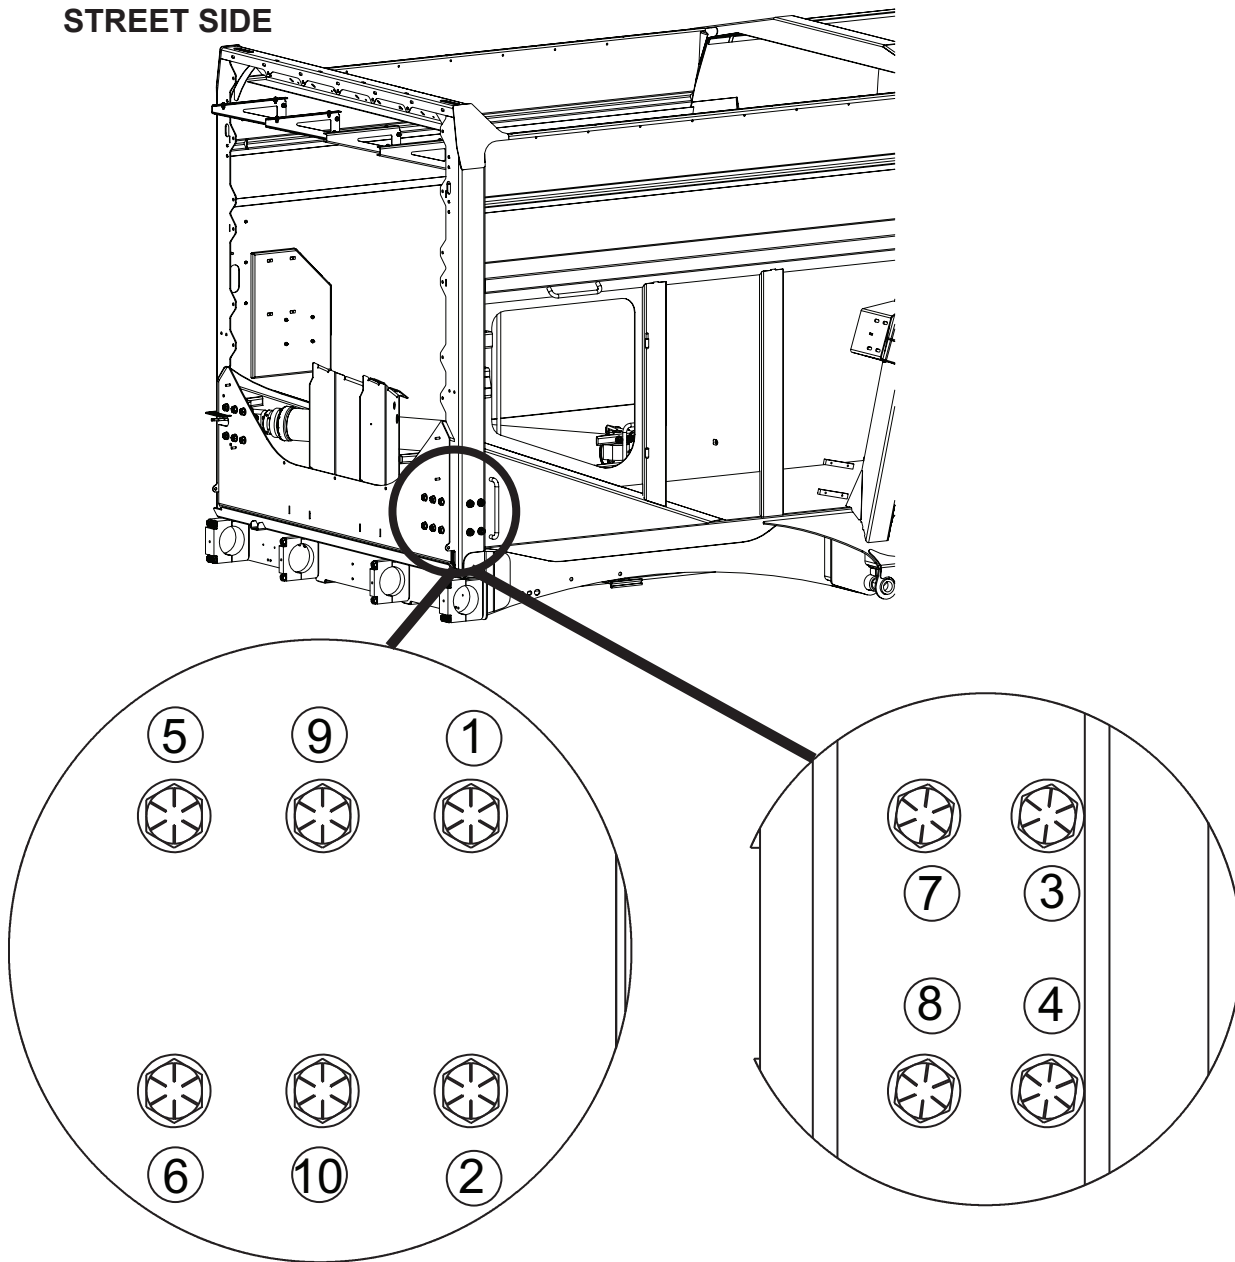
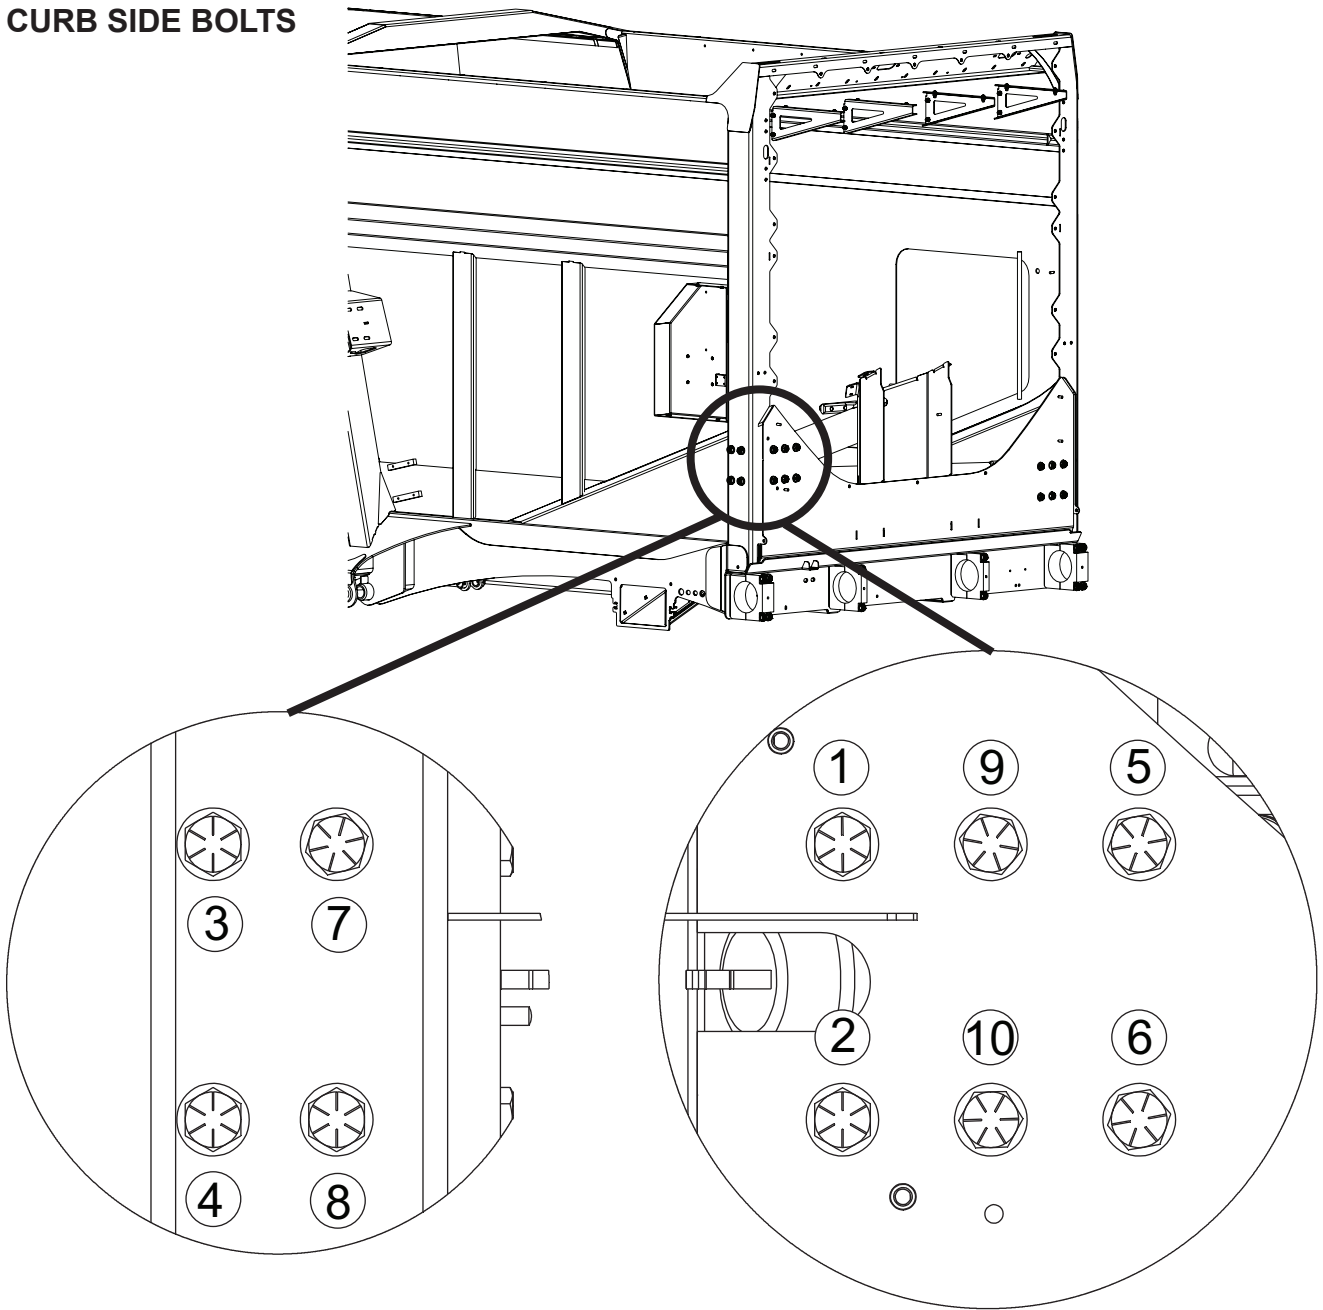

Figure 5
Figure 7
8. Working on one bolt at a time starting with bolt #1 in Figure 5 which illustrates the street side bolts or Figure 7 for curb side bolts, use a hand-held propane torch to heat the head of the bolt and wait approximately 60 seconds. **WARNING!** Heated metal may burn. Be extremely careful of hot metal. Use proper personal protection equipment when handling heated metal.
16. Repeat Steps 8-15 to each of the remaining bolts following the sequence in Figure 5 for street side (or Figure 7 for curb side), one bolt at a time.
19. Move to the **curb side of the vehicle** and conduct Steps 8-16 for the curb side ejector pillow block bolts. See Figures 7 and 8 for curb side illustrations.